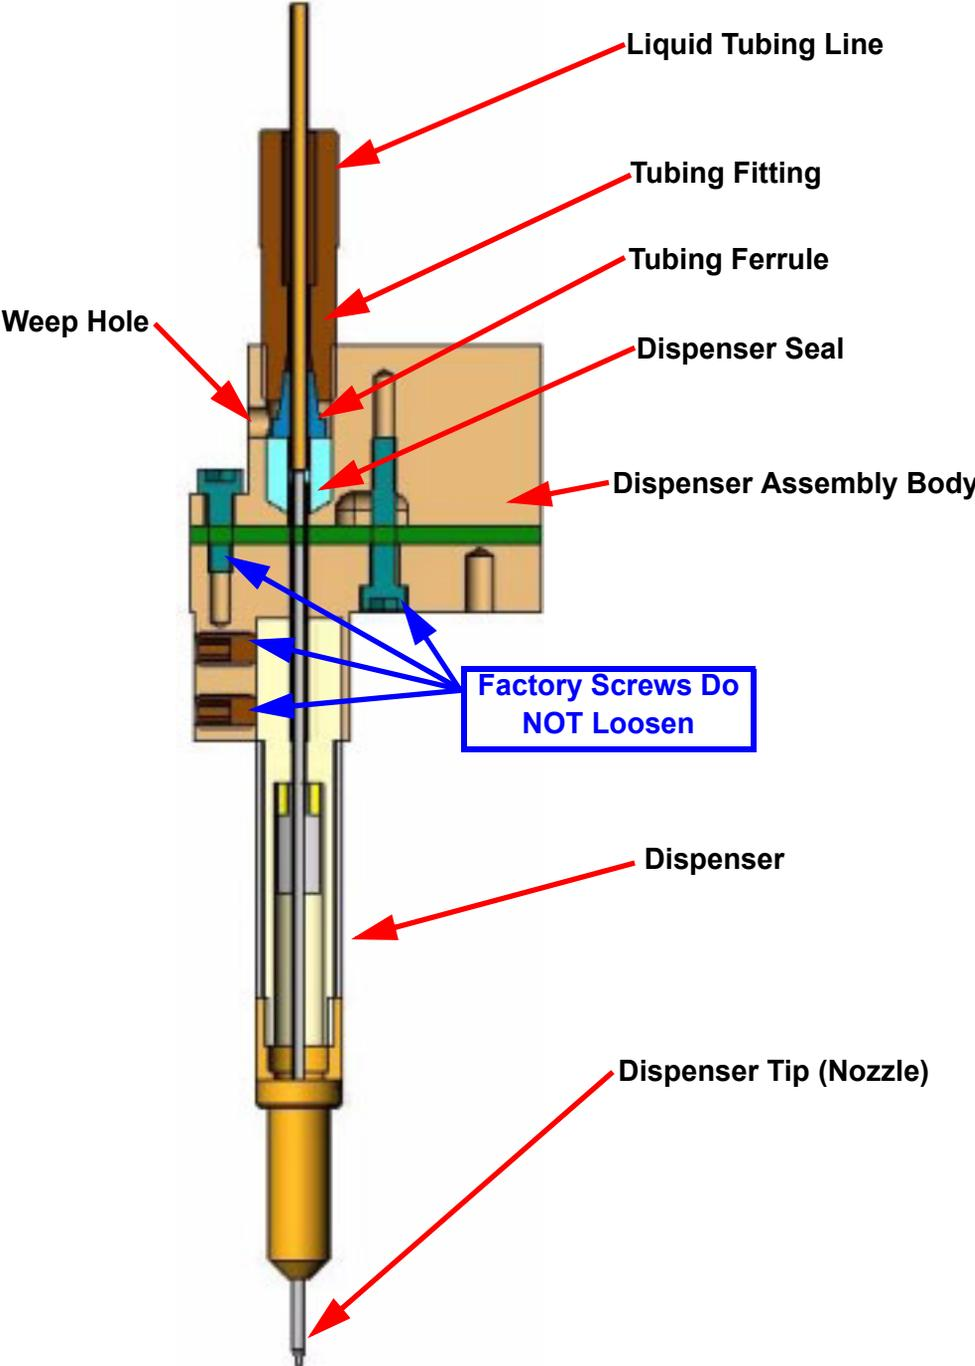

Figure 10-25. Dispenser Assembly - Internal Cutaway.
- The tubing is connected to the dispenser assembly using a nut and ferrule designed to compress the dispenser seal onto both the dispenser and the tubing (Figure 10-25)